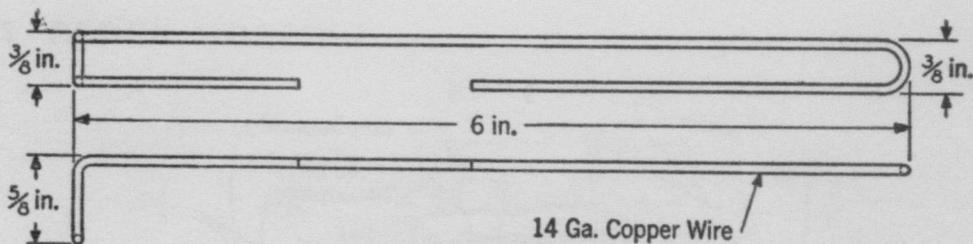
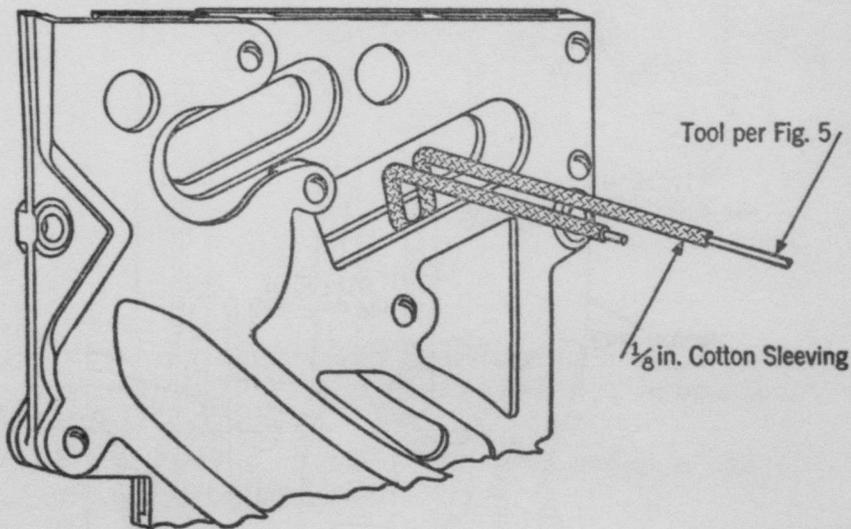
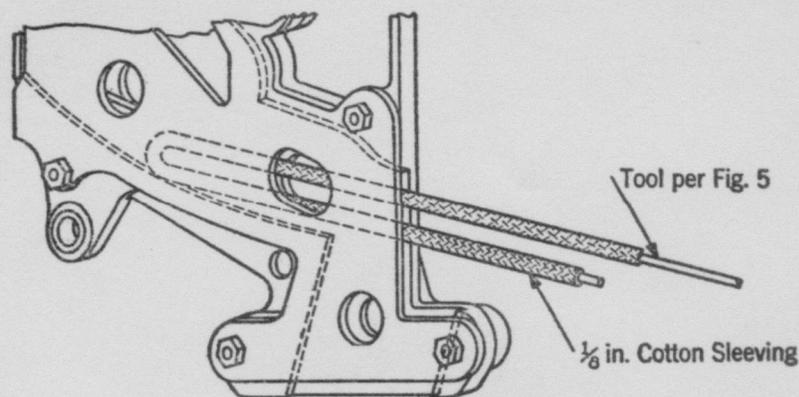

Fig. 5
Fig. 6
Fig. 7
- (b) Make a chute cleaning tool from No. 14 bare copper wire as shown on Fig. 5. Slip a clean piece of 1/8" plain cotton sleeving over each end of the tool and clean the runways as shown on Fig. 6 and Fig. 7. Use C. P. carbon tetrachloride to aid in the removal of any sticky substance from the runways.